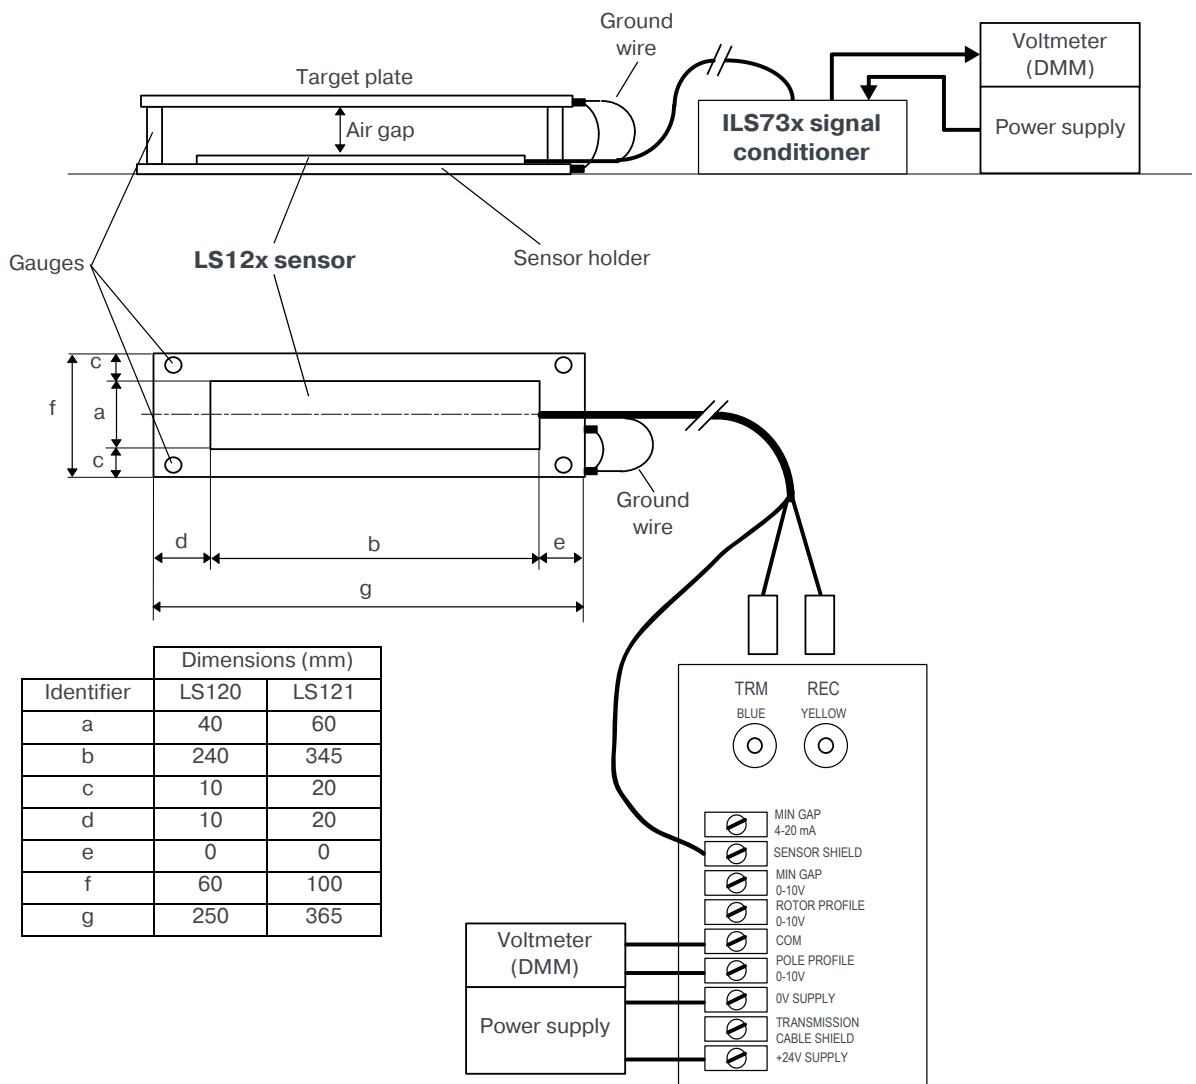

Figure 5-1: Testing an air-gap measurement chain
See Figure 5-1 for an example laboratory test setup used for testing an air-gap measurement chain.
The air-gap measurement chain can be tested in a laboratory. The information generated during the test can be used to plot an air-gap calibration curve. The test and calibration procedure (see Figure 5-1) is as follows:
- The minimum dimensions of the sensor holder and the target are 60 × 250 mm for the LS120 and 100 × 365 mm for the LS121 (see Figure 5-1).